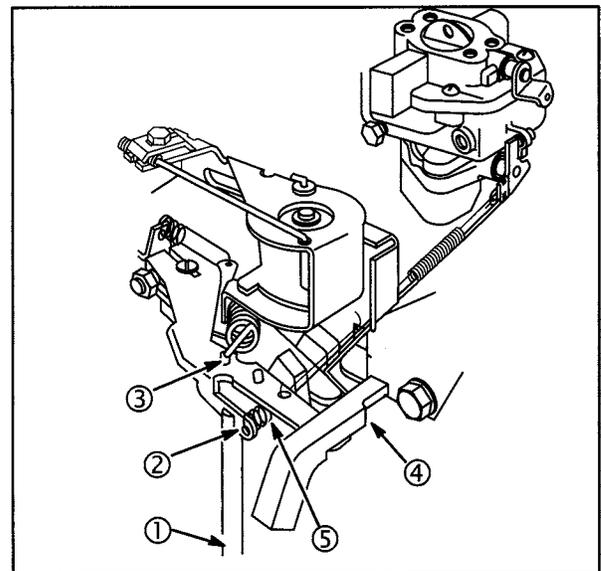

Fig. 42
Some Vanguard™ OHV V-Twin engines with remote speed control are equipped with a secondary governor spring (5). The primary governor spring is installed in #1 hole (3) on governor lever, **Fig. 42**.
2. Install Adjustment Gauge #19385 (4), with notch over end of governor lever and flat end of tool against governor control bracket as shown in **Fig. 42**.
3. Hold gauge in position and bend tab (2) with Tang Bender #19532 (1), so that all slack is removed from secondary governor spring (5) between its two anchor points, **Fig. 42**. **DO NOT STRETCH SPRING.**